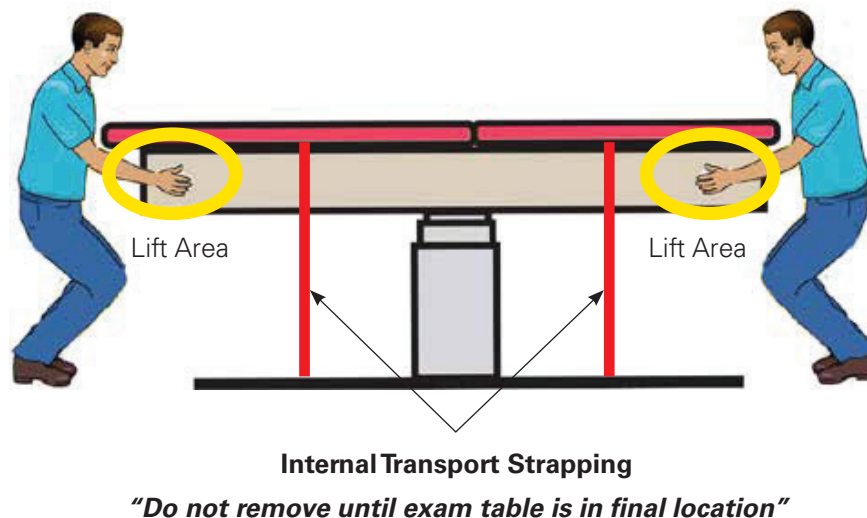

Figure 1. Lifting area for examination table
⚠ WARNING: This exam table *can weigh as much as 395 lb. (179 kg)*. Use sufficient personnel to lift and remove the exam table from the shipping pallet for placement in final location. **DO NOT** attempt to remove the exam table from the shipping pallet or move it without assistance. Use proper lifting technique. See Figure 1 for proper lifting area. Neglect of these procedures could result in serious injury.
4. Use lifting points on table (Figure 1) to carefully remove the exam table from shipping pallet.